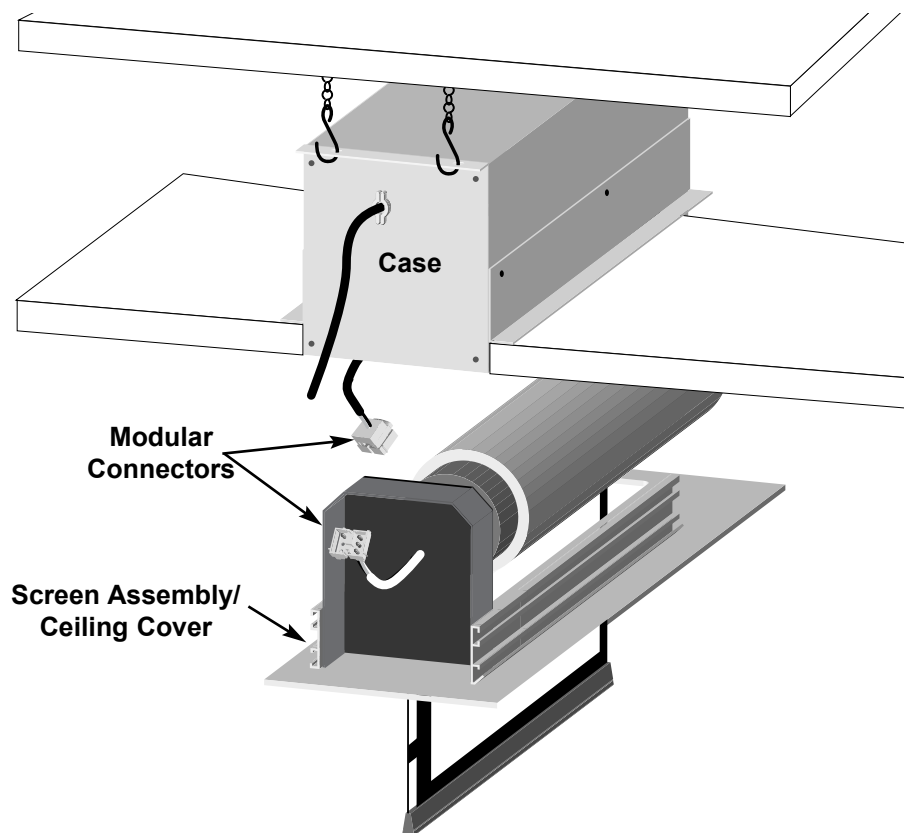

Figure 9: Installing screen assembly
2. Insert the interlocking modular connector from the screen assembly to the corresponding connector in the case. Refer to Figure 9.